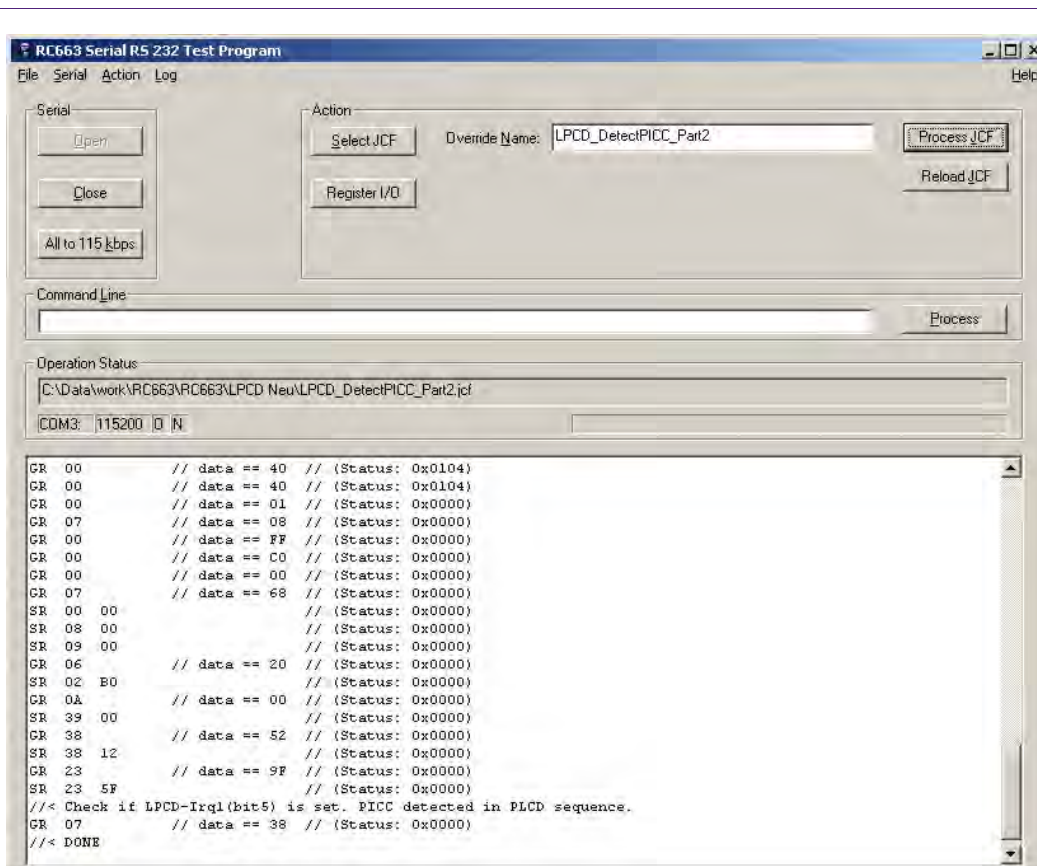

Fig 7. LPCD\_Irq set
- A correct detection is indicated when bit5 (LPCD\_Irq) in register 07 is set. See Fig 7 for more details.